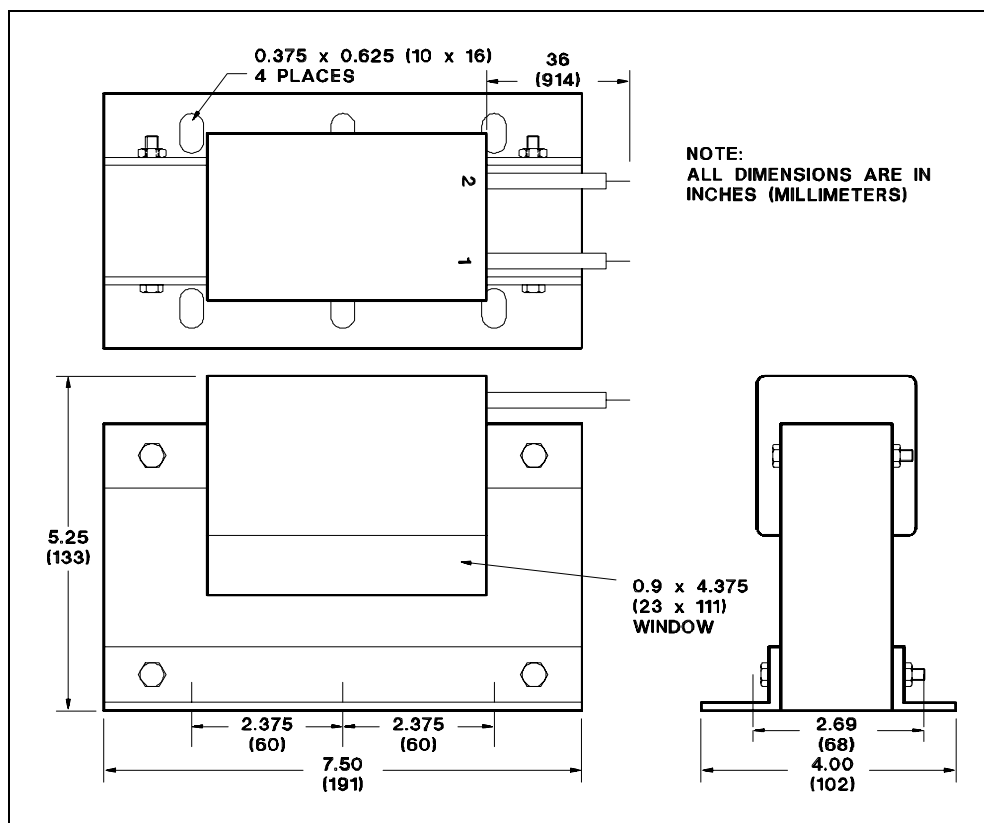

Figure 2-2. Outline Drawing - Current Transformer BE 21331-001.
Mount securely using 5/16" mounting bolts in six places. Ensure that the mounting structure is adequate to support the transformer weight during shipping/transport and operation of the system. Refer to Figures 2-2 through 2-4 for the current transformer.
- b. The first numeral of the turns-ratio indicates the number of turns of each generator line that passes through the CT window. The second numeral indicates the CT secondary turns. Refer to Table 1-1 and to Figures 2-2, 2-3, and 2-4 for the terminal numbers corresponding to the desired secondary turns.